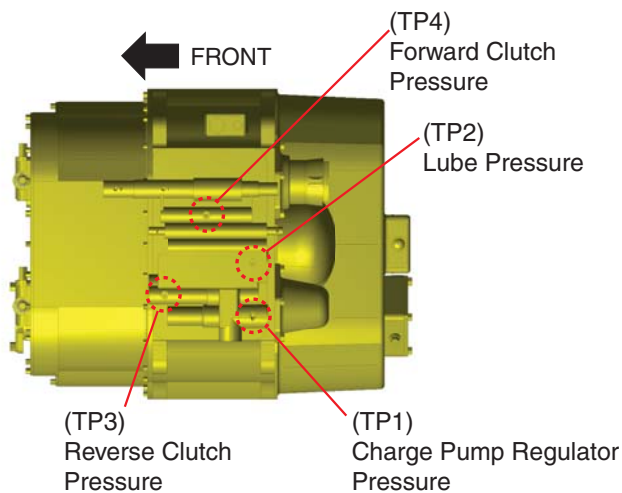

Figure 1 - Top View of Transmission
See Figures 1, 2, & 3
3. Connect 500 psi gauge to charge pump regulator pressure test port (TP)1(see Figure 1).
5. Engine OFF, remove gauge and install gauge at lube pressure TP2 (see Figure 1).
7. Engine OFF, remove gauge and install gauge at reverse clutch pressure TP3 (see Figure 1).
9. Engine OFF, remove gauge and install gauge at forward clutch pressure TP4 (see Figure 1).